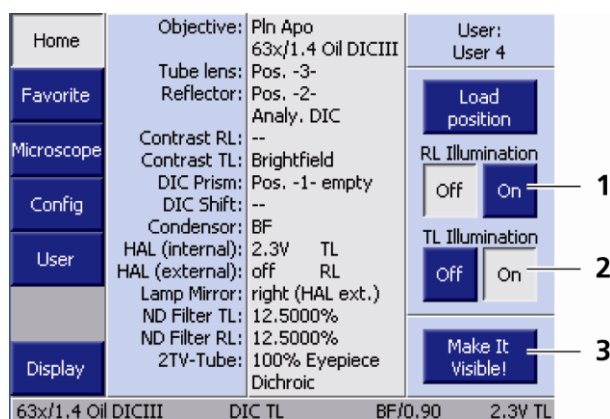

Fig. 100 Commandes
- Bouton **Reflected-light illumination** (Fig. 100/1)
- Bouton **Transmitted-light illumination** (Fig. 100/2)
- Bouton **Make It Visible!** (Fig. 100/3)